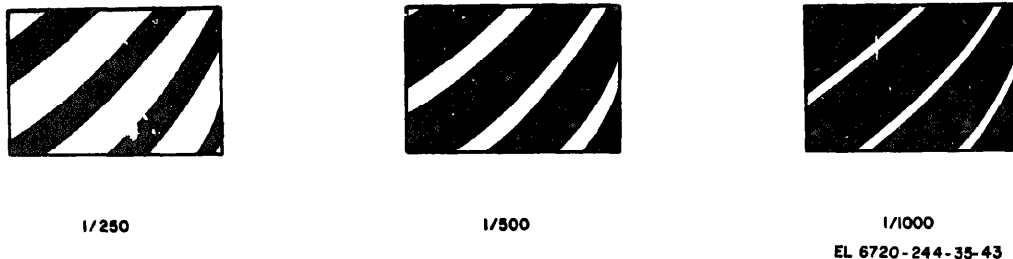
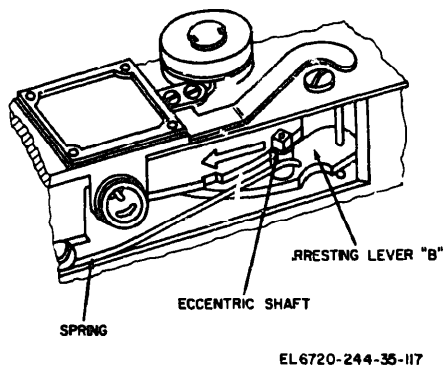

Figure 4-7. Fast shutter speed patterns.
figure 4-8. Fast shutter speed adjustment.
3. *Entire slit too wide or too narrow.* Repeatedly compare the slit width at 1/500 second, and at 1/250 second and 1/1000 second, with the shutter speed patterns (fig. 4-7). If the slit width is too wide, turn the eccentric shaft of arresting lever B (fig. 4-8), to the left using tool No. 43. If the slit width is too narrow, turn the shaft to the right.
(c) Remove the pattern checking plate from the camera. Wind and release the shutter (still set for 1/500 second) several times. Compare the shutter slit width with the 1/500-second pattern in figure 4-7. The lower part of the slit